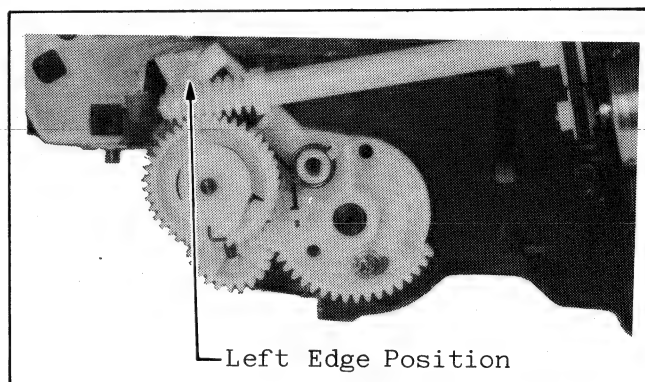

Fig. M35 Cassette Up Condition
- (b). Then remove the worm wheel stopper. Confirm that the wiper gear arm Unit (R) is on the full left side of its arc and cassette holder is in full up condition as shown in Fig. M35.